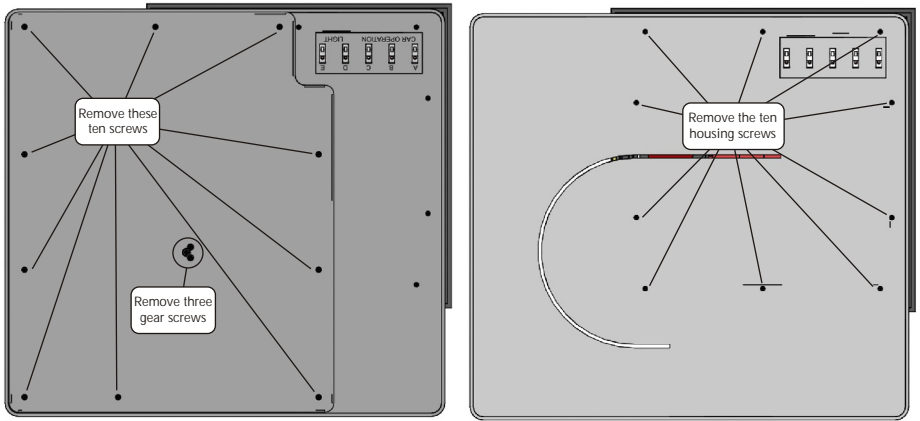

Fig 2. Removing the two sets of ten screws to reveal the inside of the building
2. Turn the building and base upside down, propping it carefully, and remove the ten (10) screws from the base cover. Then remove the three (3) gear screws clustered at the center of the base (See Fig. 2)
5. Remove the ten (10) housing screws (See Fig. 2)